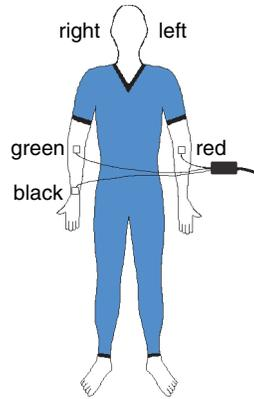

Figure 1.1
3. Apply three electrode patches to the subject's arms and clip the leads to the electrodes patches as illustrated in Figure 1.1.
2. Apply adhesive electrode patches to the right wrist, right forearm just below the elbow, and left forearm just below the elbow (Figure 1.1). Press the patches firmly for best adhesion and signal quality.